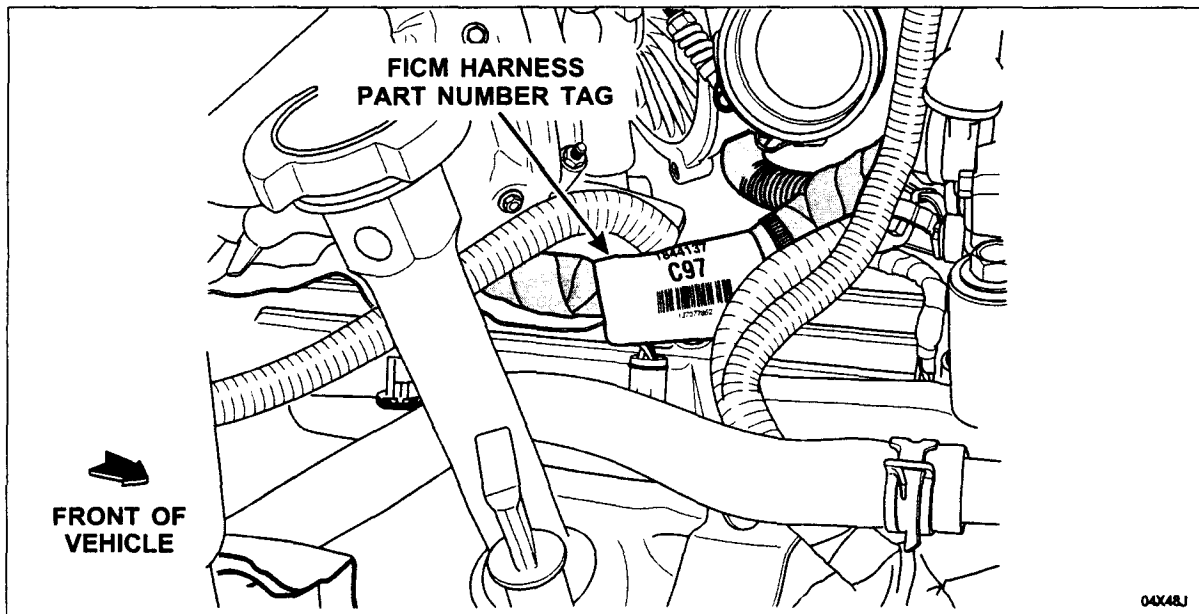

FIGURE 1
2. Inspect the FICM harness for a part number tag. If present, it will be located between two (2) of the fuel injector harness takeouts. See Figure 1.